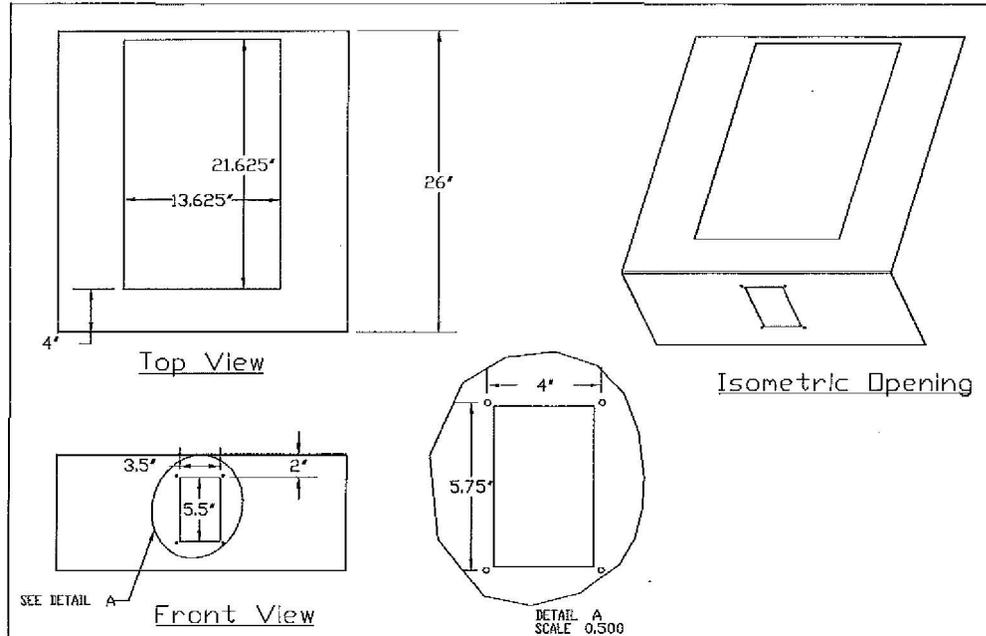

Figure 5 – Installation Parameters
- See Figure 5 for an installation illustration.